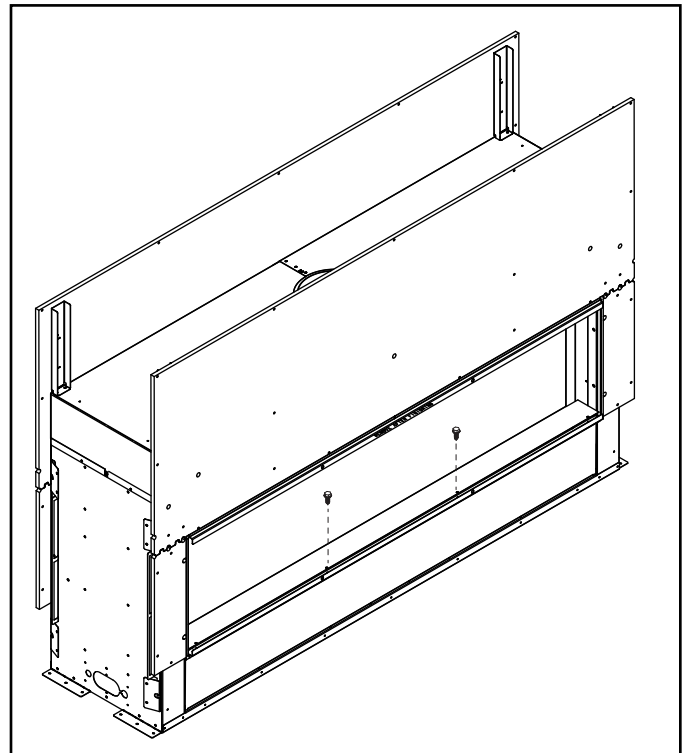

Figure 3 Remove Screws
2. Remove finishing guards on top and bottom of appliance opening. Retain screws. They will be used for trim ring installation. Quantity of screws will vary depending on appliance model size. See Table 1 and Figure 3.